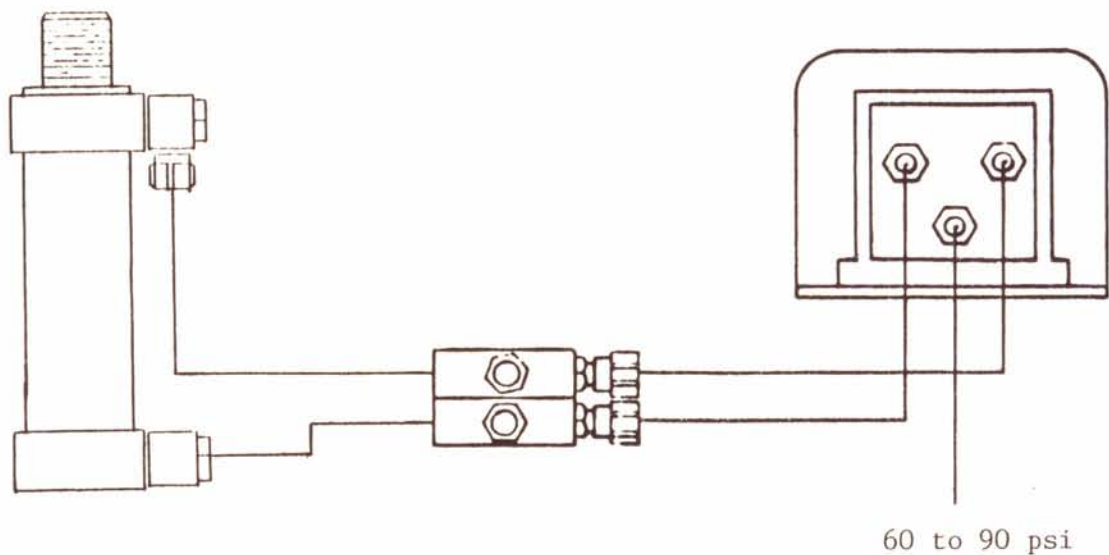

FIGURE 1
2. Connect the three air hoses provided as shown in figure 1.